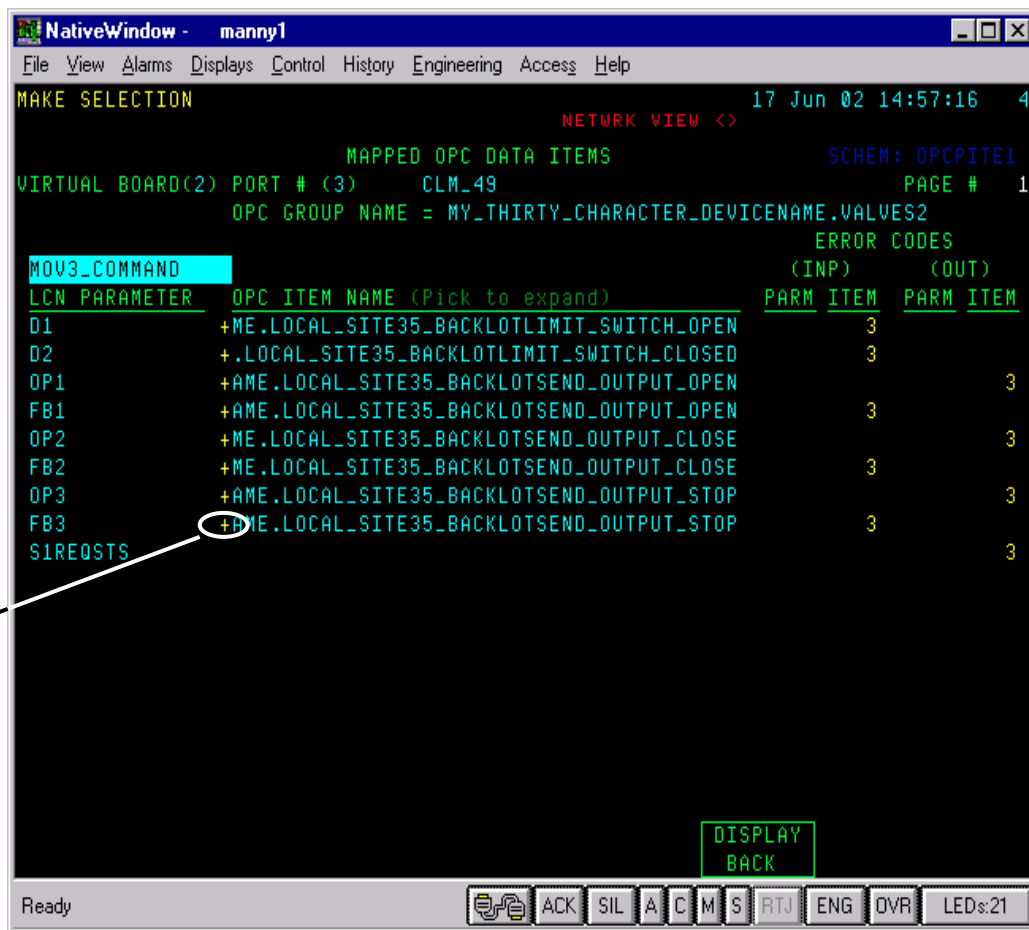

Figure 7.7-1 Mapped Data Item Display
7.7.1.9	This will invoke the Mapped Data Item display for the selected image point. The display will look similar to Figure 7.7-1 below.